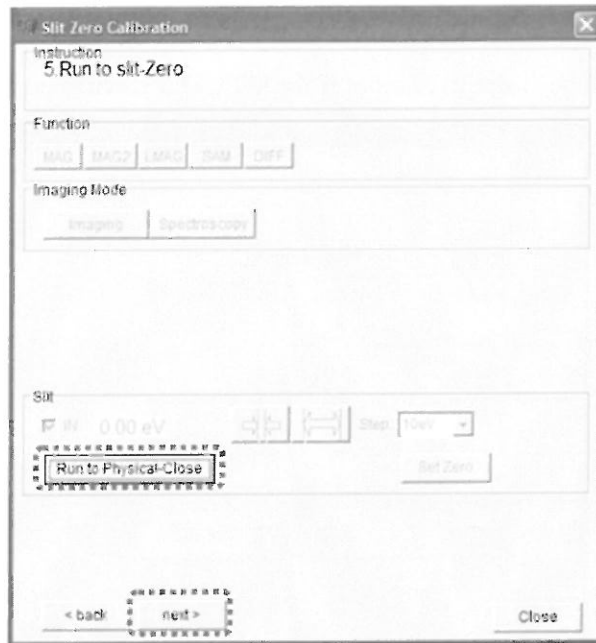

Fig. 5.60 Slit Zero Calibration - 5. Run to slit - Zero
- Follow “Instruction – 5. Run to slit–Zero”, click the **Run to Physical - Close** button (Fig. 5.60). After pressing the button, press the **next** button to proceed.